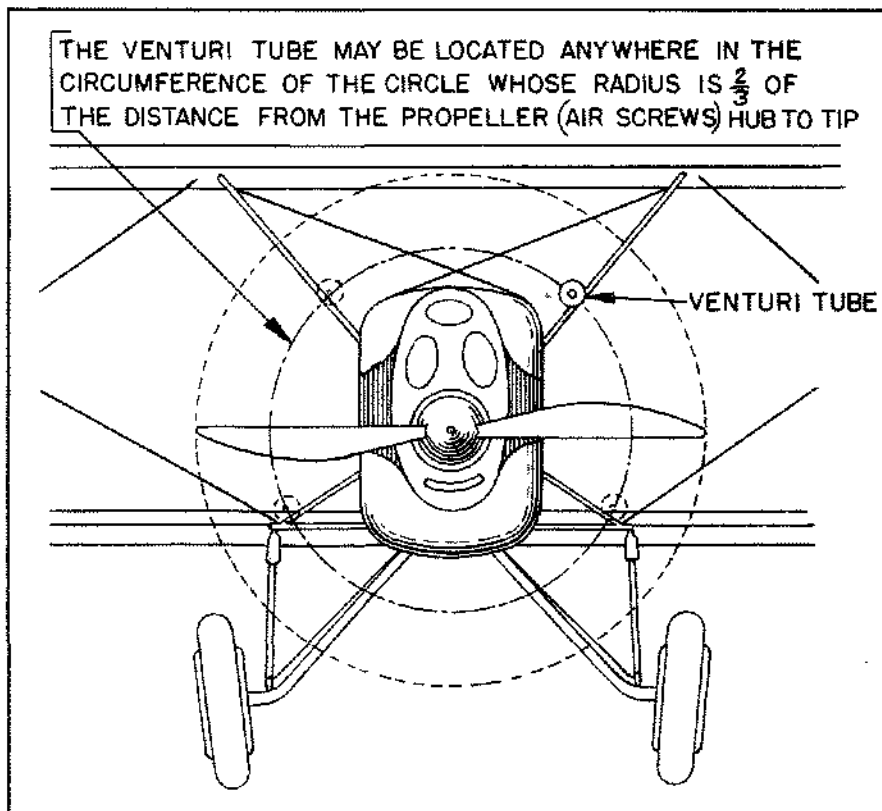

FIGURE 53 LOCATING THE VENTURI TUBE
2. Mount the venturi tube in the slip-stream of the propeller, with the arrow on its nameplate pointing in the direction of flight. See Fig. 53. The venturi tube should be placed as close as possible to the instrument it is to operate, so as to keep the amount of connecting tubing to a minimum. The venturi tube must produce a vacuum of not less than 3" and not more than 5" of mercury at the instrument when the airplane is flying at cruising speed. The ideal vacuum is 4" of mercury at cruising speed.